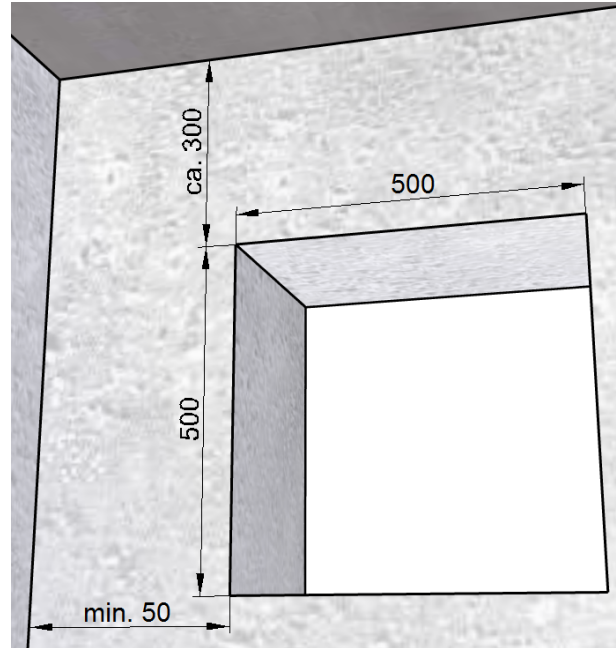

Fig. 7: Wall breakthrough for installation kit **with** filler piece, dimensions in millimetres
- Full-width wall breakthrough (see Fig. 7) for installation kit **with** filler piece M-WRG-M/Fü
- Full-width wall breakthrough (see Fig. 7 on page 13) for installation kit **with** filler piece M-WRG-M/Fü